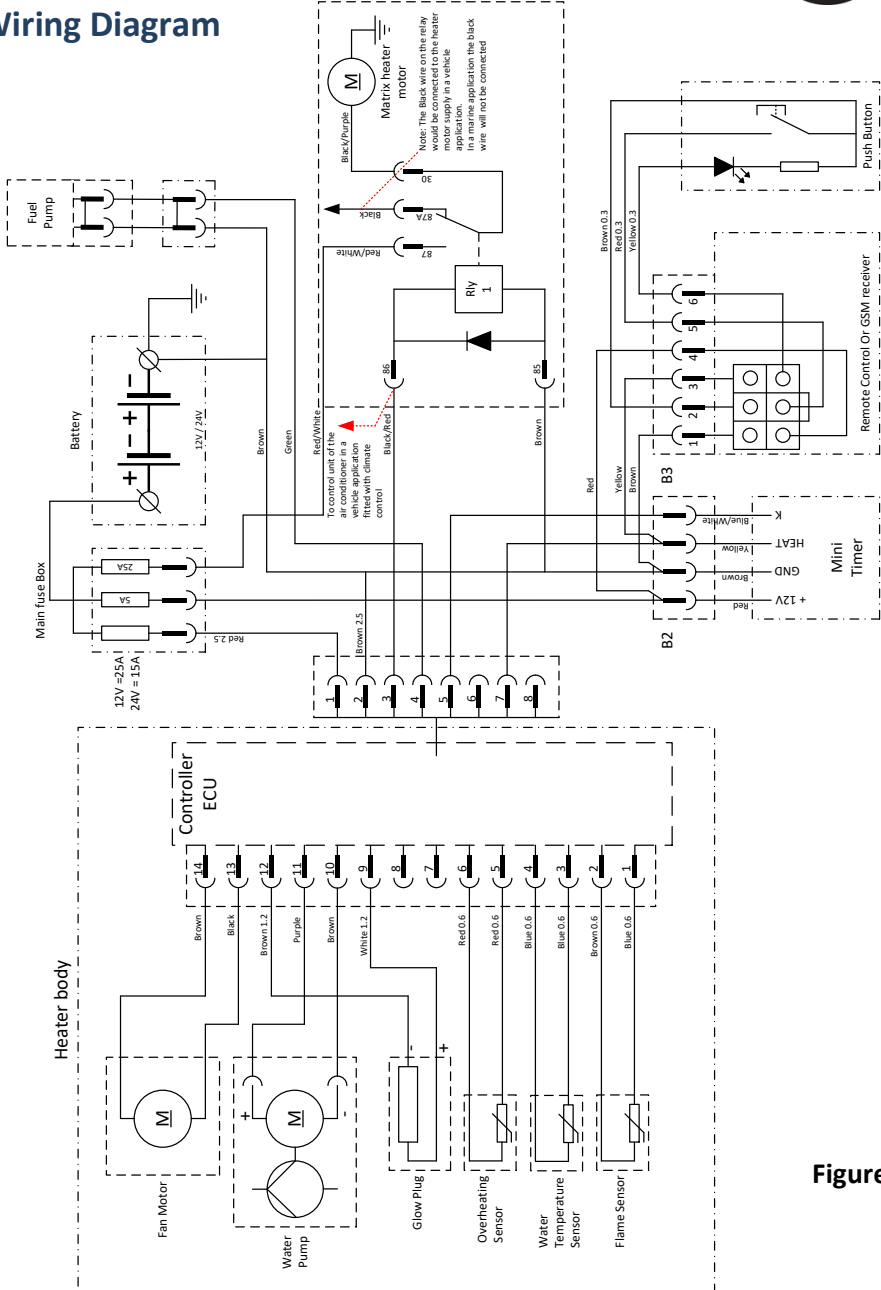

Figure 3
- 2) Plug the temperature and overheat sensor pins back into the main connector as per figure 3.